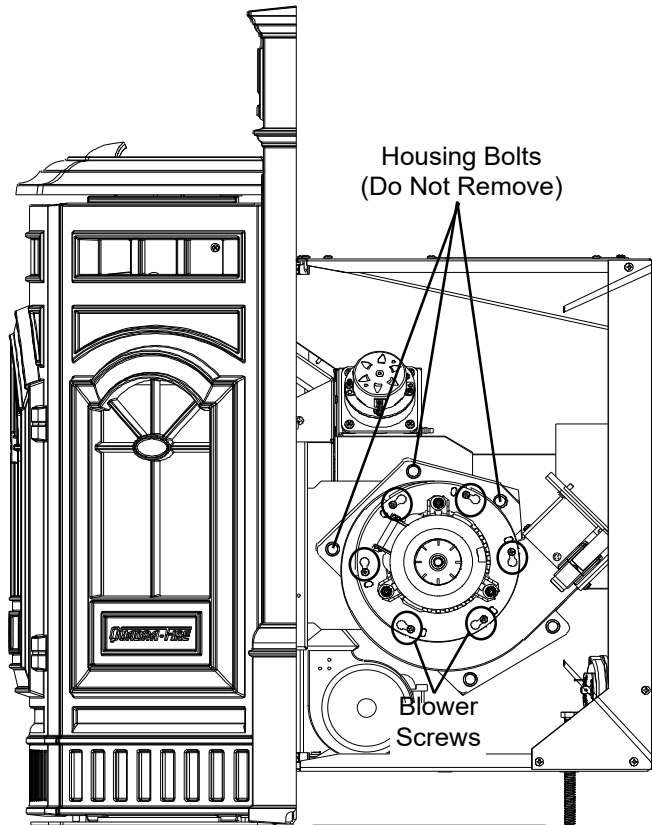

Figure 25.1
- Remove blower mounting screws (not housing bolts), **Figure 25.1**, from blower housing and remove blower. The replacement blower is shipped with a housing. If you do not need the housing, discard it. If you do need to replace the housing you will also need to replace the gasket. See Service Parts List for the part number.